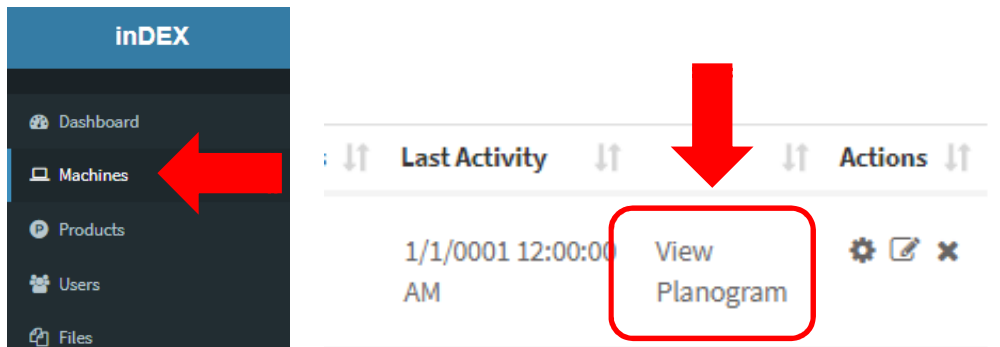

Figure 42
- From here select “**View Planogram**” text next to the machine that you would like to edit (*figure 42*).